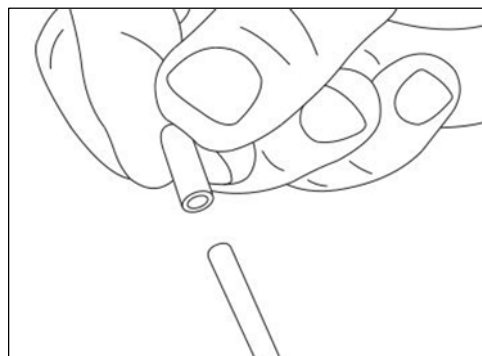

Figure 92. Remove probe safety cap (analyzer side)
- Remove the red safety cap from the probe tip (panel side). Refer to Figure 92.